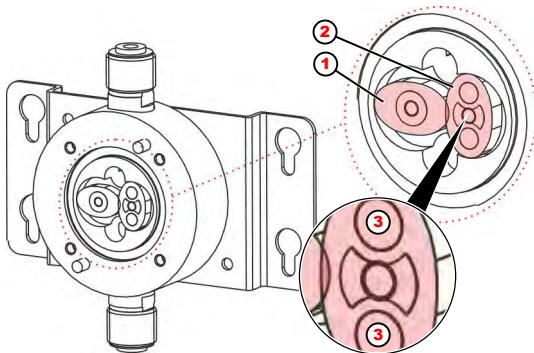

Fig. 22: Oval gear meter
The oval gear wheels must be inserted so that they are offset to each other by exactly 90° (Fig. 22, pos. 1 + pos. 2).
1. After cleaning / replacing, insert the oval gear wheels so that they are offset to each other by 90° (Fig. 22, pos. 1 + pos. 2).
The oval gear wheel with the welded magnets (Fig. 22, pos. 2) must be positioned under the sensor in the cover.